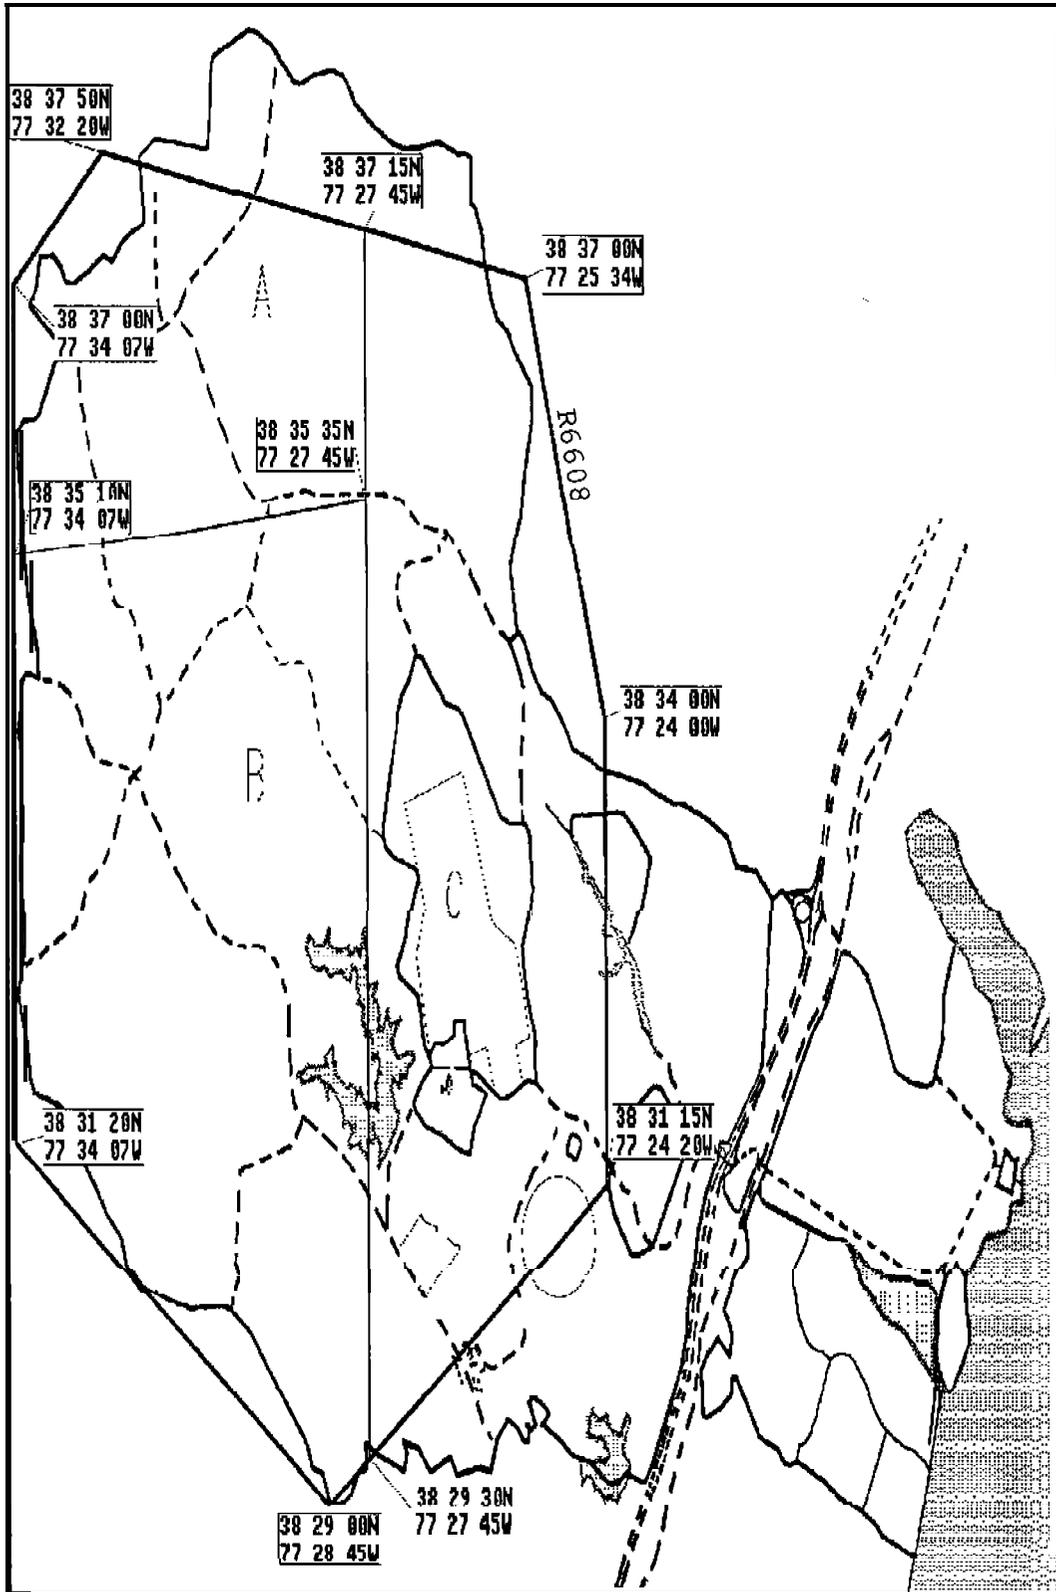
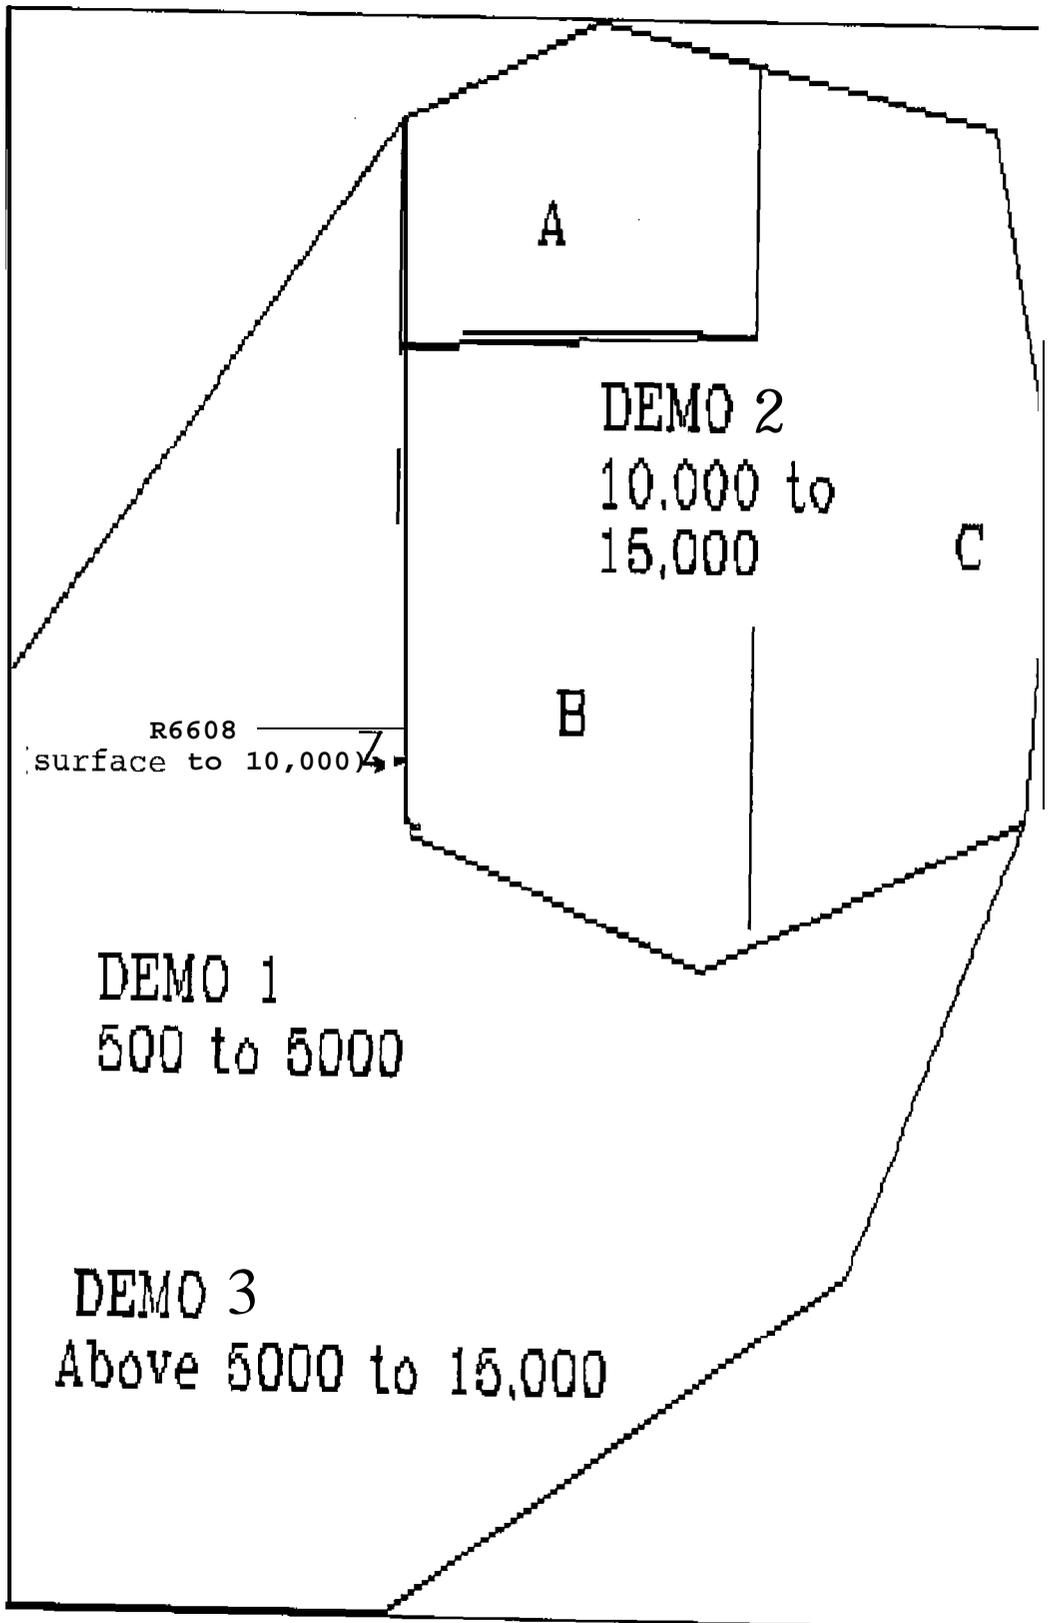

Figure 3-1.--MCCDC Joint Use Restricted Airspace.
Figure 3-2.--Demo Military Operating Areas
a. Three Military Operating Areas (**MOA's**) have also been established to provide additional aircraft maneuver area. R-6608 and the DEMO **MOA's** are listed in Flight Information Planning (FLIP) documents and are depicted in the FLIP high and low altitude **enroute** charts. Figure 3-1 depicts the restricted areas and the **TA's**. Figure 3-2 depicts the DEMO **MOA's** relationship to the restricted areas.